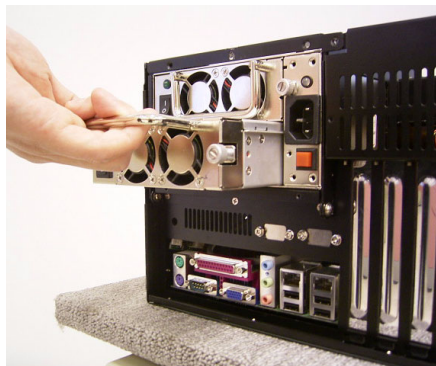

Figure 3.8: Replacing the failed module
3. Loosen the thumbscrew of the failed module and then gently pull out the module by the handle (See Figure 3.8).